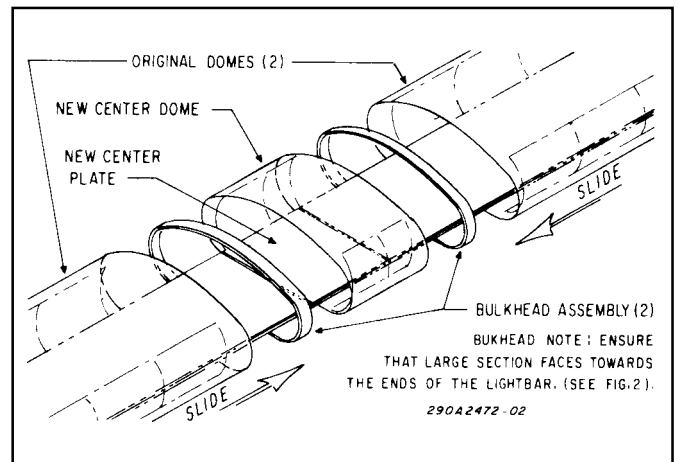

Figure 3.
6. Reinstall both dome assemblies, removed in step 1 (see figure 3). Reinstall each dome assembly identification plate with the previously removed screws.